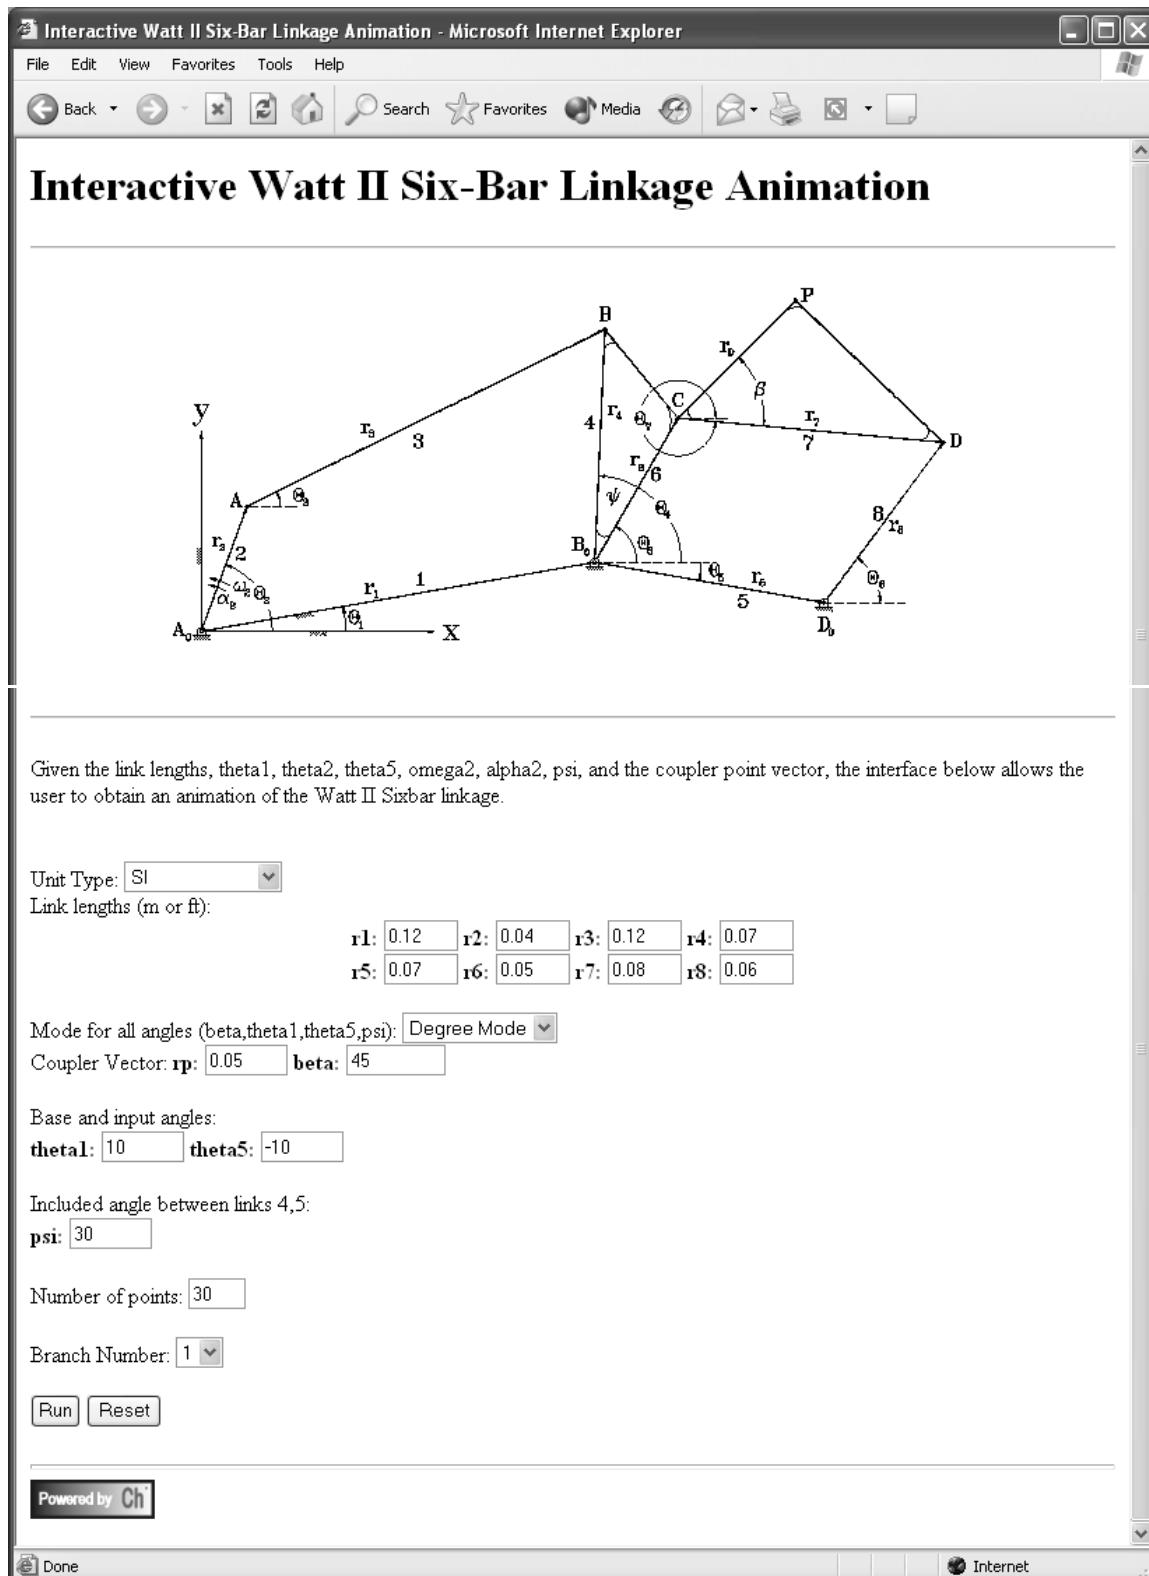

Figure 5.18: Web page for Watt (II) sixbar linkage animation.
For the animation web page shown in Figure 5.18, Figure 5.20 shows the output of running the web page to simulate the motion of Watt (II) sixbar linkage. The output is a snapshot of animation for the first geometric inversion of the defined mechanism.
5.3. WATT SIX-BAR (II) LINKAGE